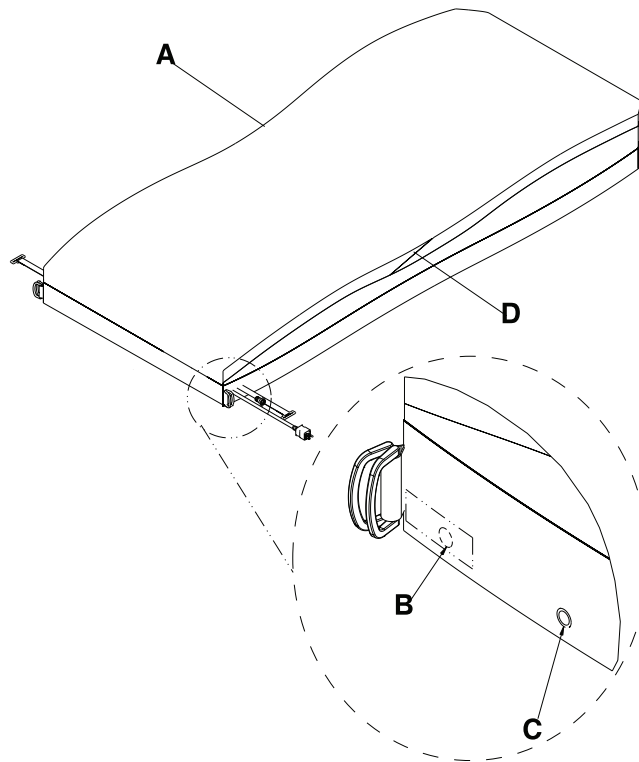

Figure 1-16: Top cover
5. Unsnap the two secure snaps (C) at the foot end corners (Figure 1-16 on page 1-40).
6. Unsnap the two foot end corner retainers (B) (Figure 1-16 on page 1-40).
8. Unzip the support surface top cover from the bottom cover using the zipper pull tool or equivalent (A) (Figure 1-16 on page 1-40) and stop unzipping at the middle of the opposite side (D).
13. Using a T15 Torx driver, remove the nine ground screws (B) and nine star washers (D) (Figure 1-16 on page 1-40). Save the ground screws and star washers.